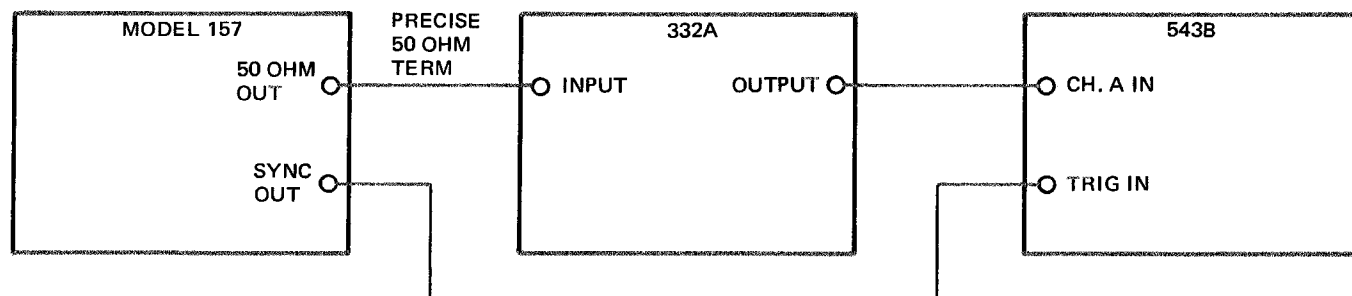

Figure 4-1. Distortion Analyzer Test Setup
1. With the generator mode in AUTO CAL and the output function in \sim , connect the distortion analyzer and oscilloscope to the synthesizer as shown in Figure 4-1.